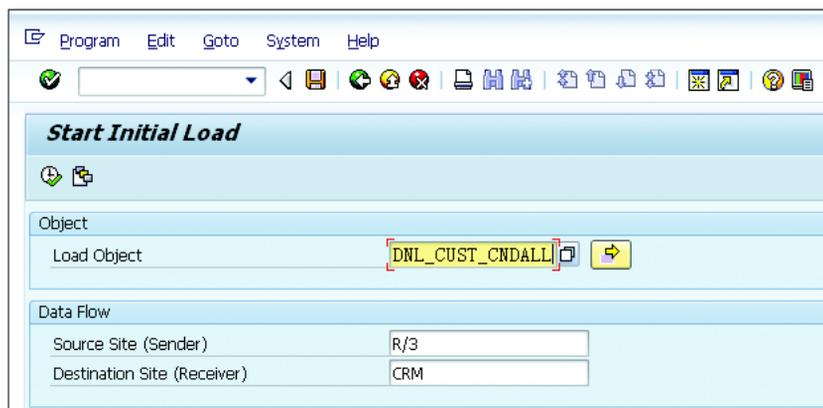

Figure 2.43 Download Pricing for Customizing Objects
2. In the LOAD OBJECT field, enter "DNL_CUST_CNDALL" (see Figure 2.43).